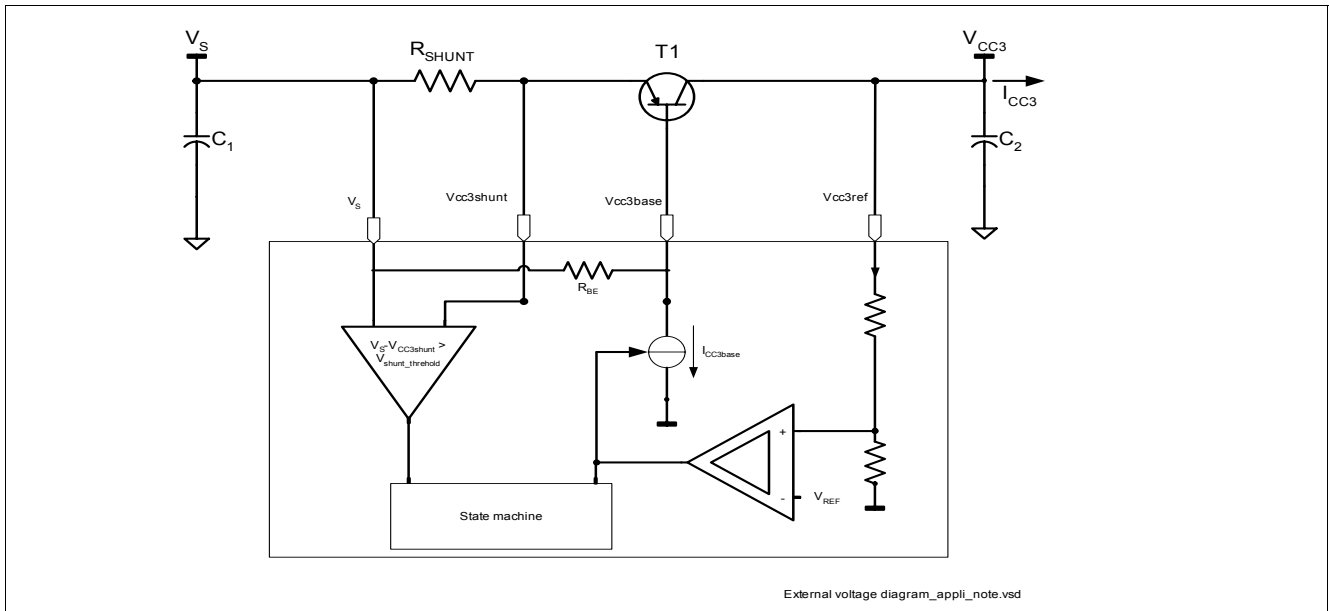

Figure 8 Hardware Set Up
Figure 8 shows the hardware set up used.
**Parameters dependent on the test set-up, according to the Figure 8**